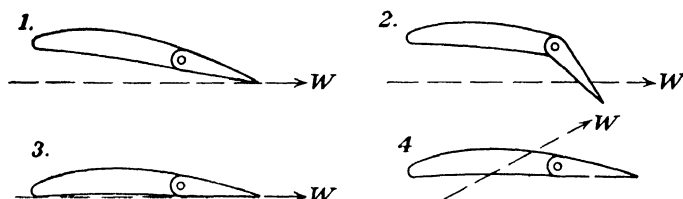

Fig. 112.
1-4. Estimate the angle of attack of the airfoils in Fig. 112. Consider the chord line to run from the leading edge
5. What wind condition might cause a situation like the one shown in Example 4 Fig. 112?